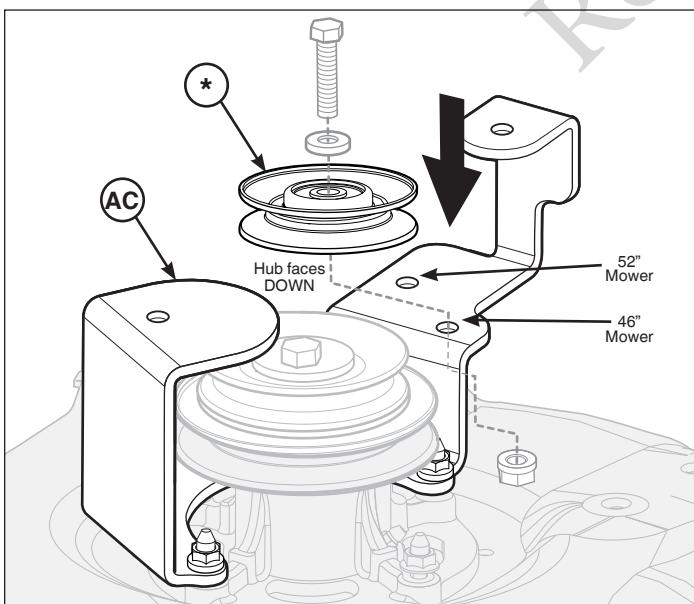

Figure 5
3. The idler pulley (*, Figure 5) is pre-assembled onto the idler cover support (AC). Placement of the pulley needs to be assembled in the appropriate hole to accommodate the 46" or 52" mower as shown in Figure 5.